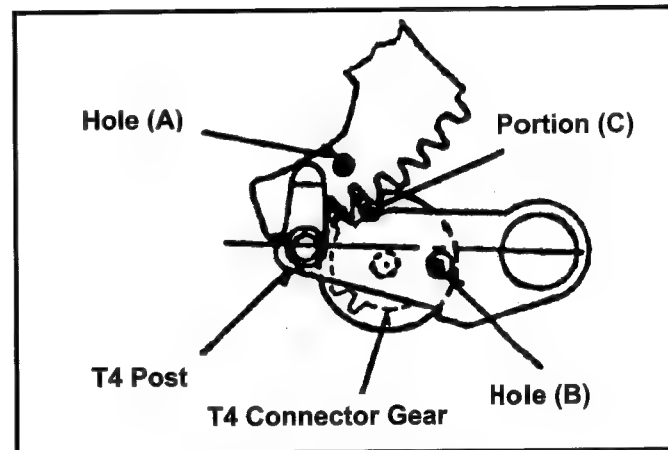

Fig.6-23-1 Phase of T4 Post
2. Confirm that the hole (B) of T4 connection Gear was matched to hole of T4 post as shown in figure 6-23-1.
3. Confirm that the portion (C) of T4 connection Gear and hole (A), which are located as shown in figure 6-23-1.